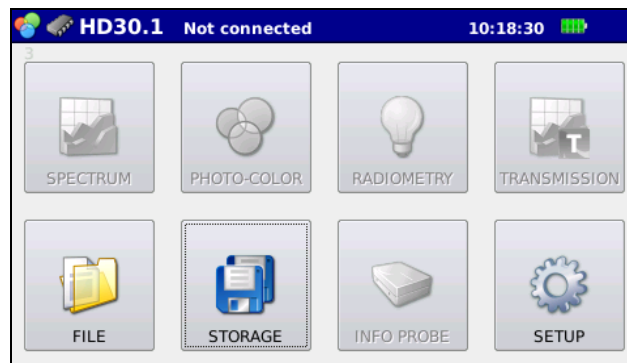

Fig. 3.1: start-up screen with no probe connected.
1. When switching the instrument on, a yellow led (steady at first and then blinking) shows that the instrument is starting. After 20 seconds, the instrument is operating and the start-up screen in Fig. 3.1 appears, in which all measurement functions are disabled, if no probe is connected. "Not connected" appears in the top bar.
Press EXIT to return to the main menu Fig.3.1.